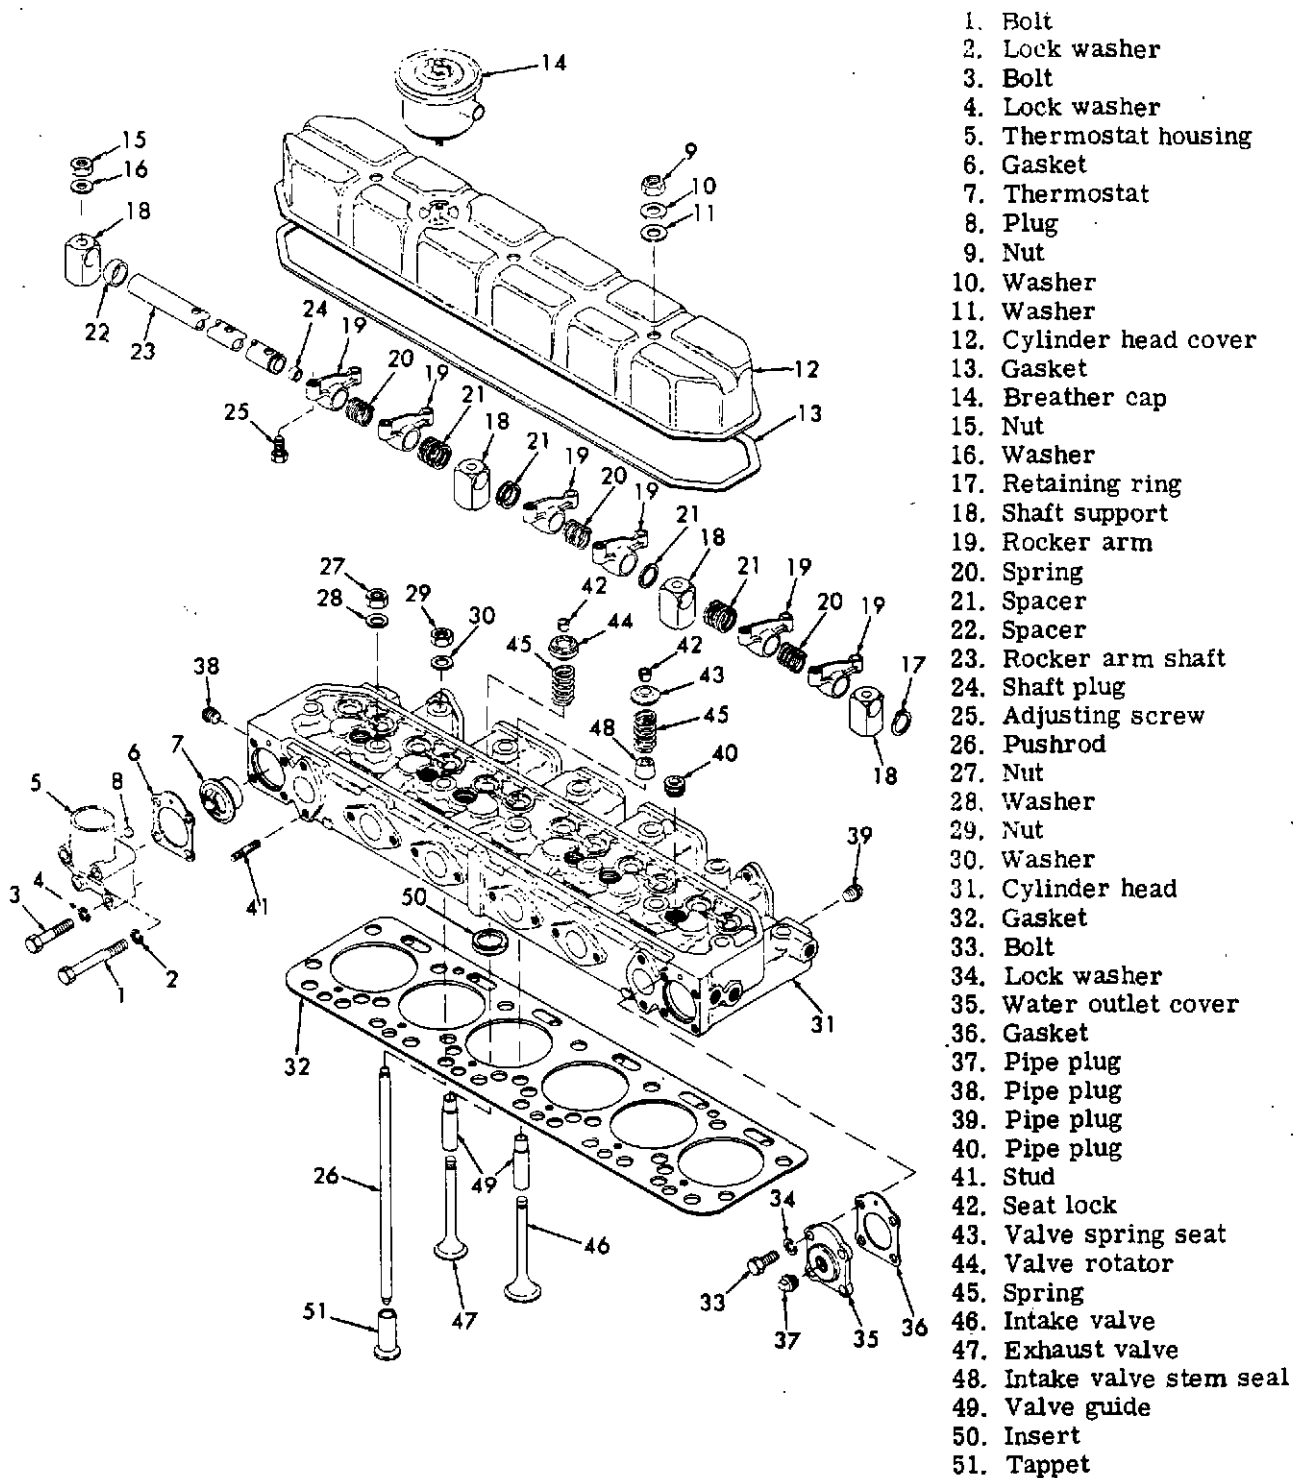
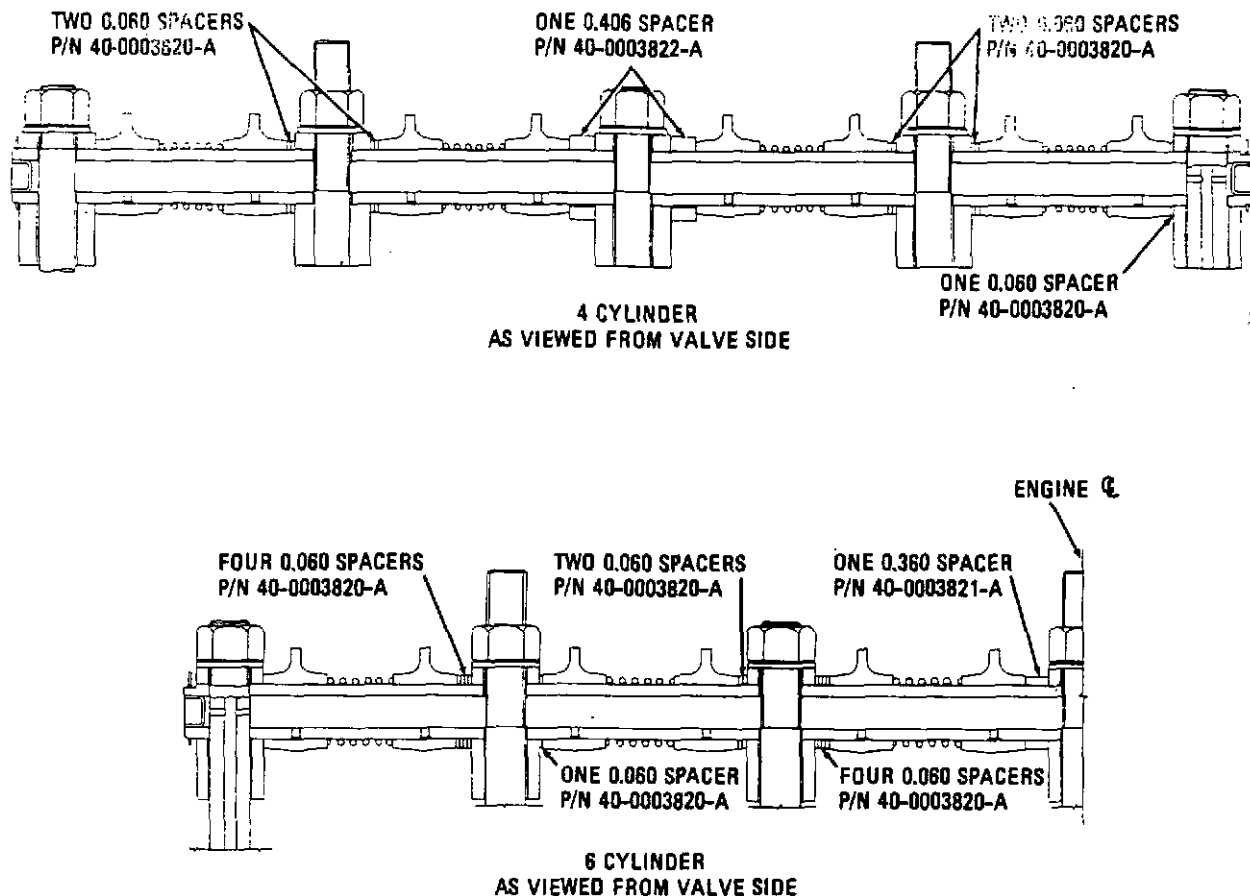
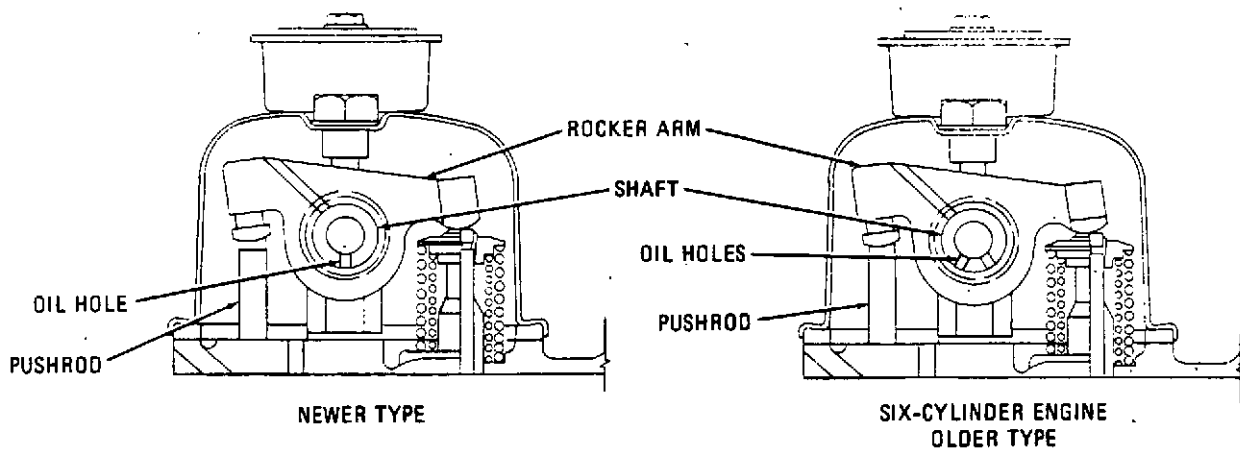
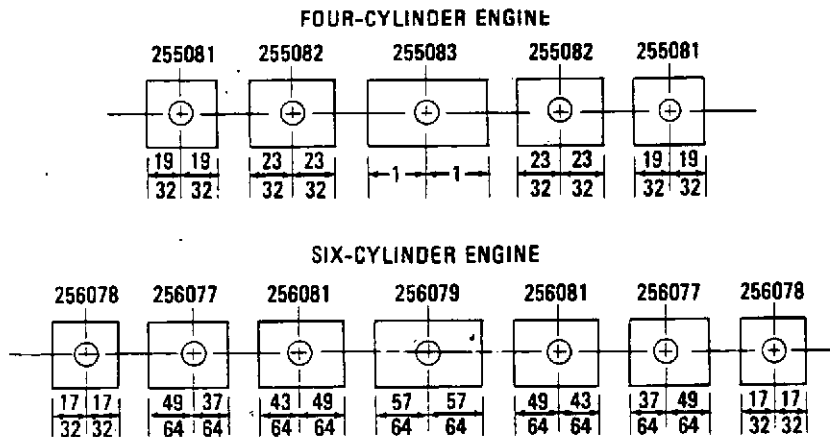

Figure 5-19. Rocker Arm, Cylinder Head, and Valve Assemblies, Exploded View
Figure 5-20. Rocker Arm Shaft Showing Spacer Positions for Engines Having Identically Sized Shaft Supports
Figure 5-21. Rocker Arm Shaft Showing Oil Hole Positions
Figure 5-22. Rocker Arm Shaft Support Installation for Engines Having Variable Sized Supports
1. Remove the cylinder head cover (12, figure 5-19) and gasket (13) by removing the nuts (9) and washers (10 and 11) securing it to the cylinder head (31).
2. Remove the nuts (15) and washers (16) that secure the rocker arm assembly to the cylinder head. On six-cylinder engines, the rocker arm shaft is in two sections. When removing rocker arms from six-cylinder engines, it is suggested that a wire be used between the front and rear rocker arms to hold the two shaft assemblies together and to prevent accidental disassembly of the rocker arms. Carefully lift the complete assembly from the cylinder head.
3. Disassemble the rocker arm assembly by removing the retaining rings (17) from the shaft ends. Slide the shaft supports (18), rocker arms (19), spacing springs (20), and spacers (21 and 22) from the rocker arm shaft (23). Earlier engines used several sizes of shaft supports. Facilitate reassembly by marking the order and position of the shaft supports as removed.
1. Coat the rocker arm shaft (23) lightly with clean lubricating oil. Slide the shaft supports (18), rocker arms (19), spacing springs (20), and spacers (21 and 22) onto the rocker arm shaft. Install the spacers on the shaft of engine models that use them, as indicated in figure 5-20. On the four-cylinder engines, make
certain that the oil holes in the shaft face downward and toward the camshaft side of the engine, as shown in figure 5-21. On older type G-Series engines, there are two oil holes for each rocker arm and they must face downward as shown in figure 5-21. Newer type rocker arms shown on figure 5-20 have only one mounting hole which must be assembled downward. On older G-Series engines, the shaft supports (18, figure 5-19) vary in size and mounting hole location and must be assembled exactly as shown in figure 5-22. Install the retaining rings (17, figure 5-19) on each end of the rocker arm shaft.
on the cylinder head. Make certain the rocker arm adjusting screws (25, figure 5-19) are positioned over the pushrods (26). Secure the rocker arm assembly to the cylinder head with nuts (15) and washers (16).
6. Install the cylinder head cover (12) and new gasket (13) and secure to cylinder head with nuts (9) and washers (10 and 11).
6. Lift out the pushrods (26, figure 5-19).
7. Remove the cylinder head nuts (27 and 29) and washers (28 and 30); lift the cylinder head (31) and gasket (32) from the engine. It may be necessary to tap the head lightly with a soft hammer to loosen it. Do not pry on the contact surfaces.
3. Install water outlet cover (35, figure 5-19) and gasket (36) on cylinder head and secure with bolts (33) and lock washers (34).
7. Install the valve pushrods (26, figure 5-19).
2. With a clamp-type valve spring compressor, compress the valve springs (45, figure 5-19) and remove valve spring seat locks (42).
3. Remove the valve springs (45), seats (43), and valve rotators (44); lift out the valves (46 and 47). Place valves in order in a rack, with holes numbered for both intake and exhaust valves so that the valves can be installed in their respective places at reassembly.
4. Remove the intake valve stem seals (48) from the valve guides.
2. Insert the intake valve stem seals (48, figure 5-19) over the ends on the intake valves (46) and secure firmly on the exposed ends of the valve guides (49).
3. Install the valve springs (45), spring seats (43), and exhaust valve rotators (44) on the valve stems. Using a valve spring compressor, compress the valve springs and install the valve seat locks (42).